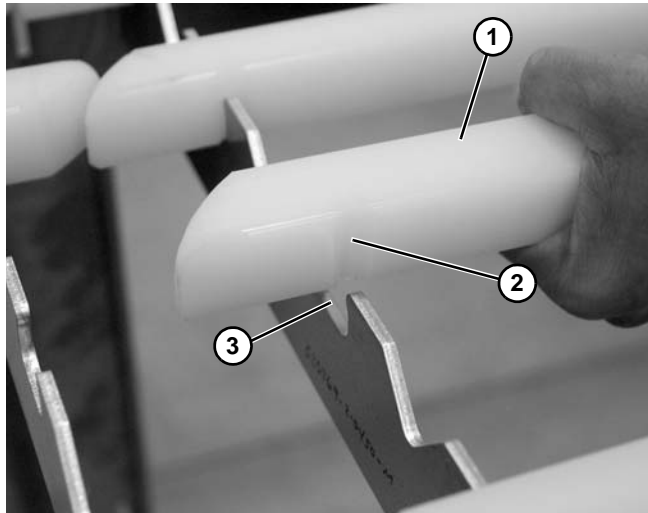

Figure 118
2. Remove worn wear strips (Figure 118, item 1) from the frame notches.
3. Attach new wear strips by installing with the rounded slot (Figure 118, item 2) in wearstrip into the slot (Figure 118, item 3) on the crossmember.